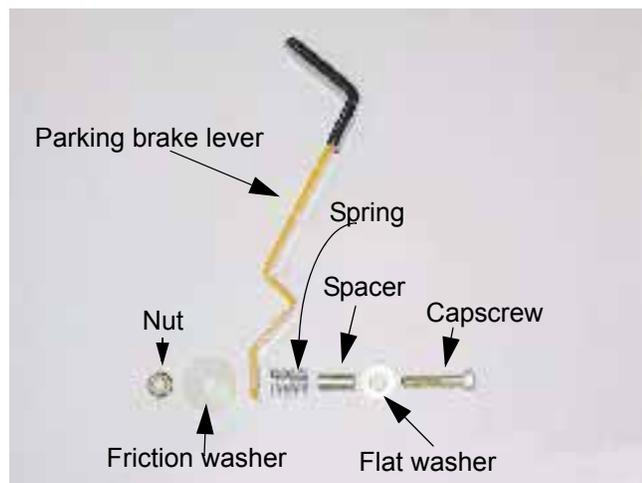

Figure 8.7
8.7. Check the brake lever mounting hardware. See Figure 8.7.